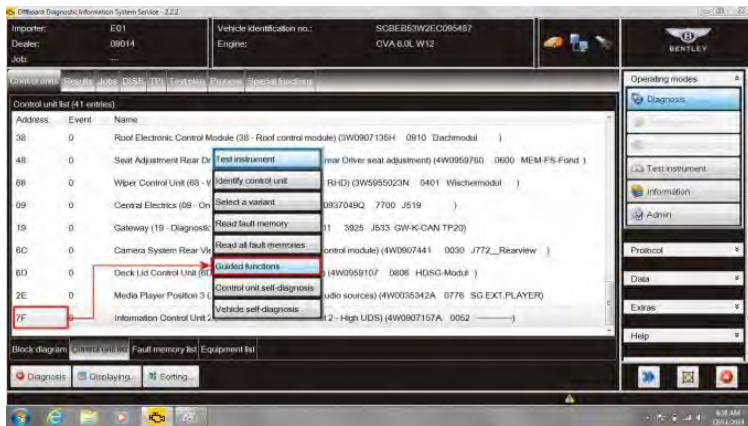

Figure 11
19. A second **Replace control module** routine for 7F must be performed, Within Control units – Select (single touch) **7F Information Control Unit 2** – Reveal drop down menu (extended touch and release), Select **Guided functions** (see Figure 11)